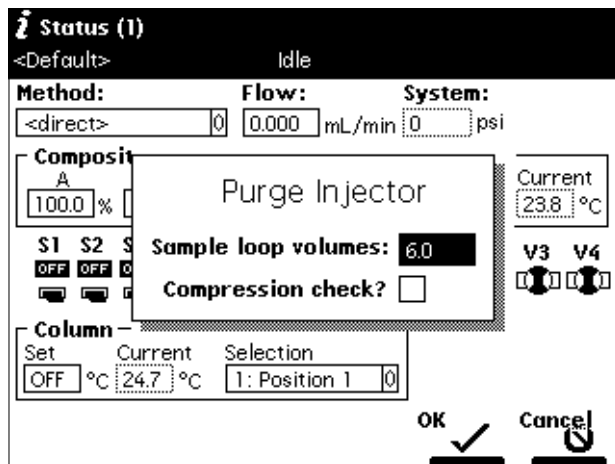

Figure 4-11 Purge Injector Dialog Box
2. Select the **Purge Injector** option, then press **Enter**. The Purge Injector dialog box appears (Figure 4-11).